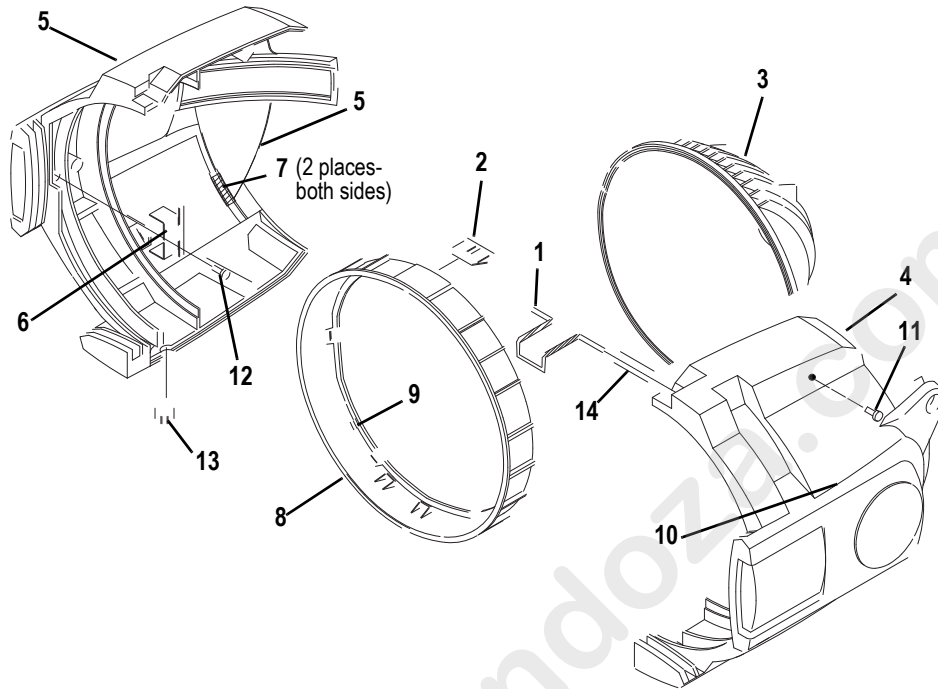
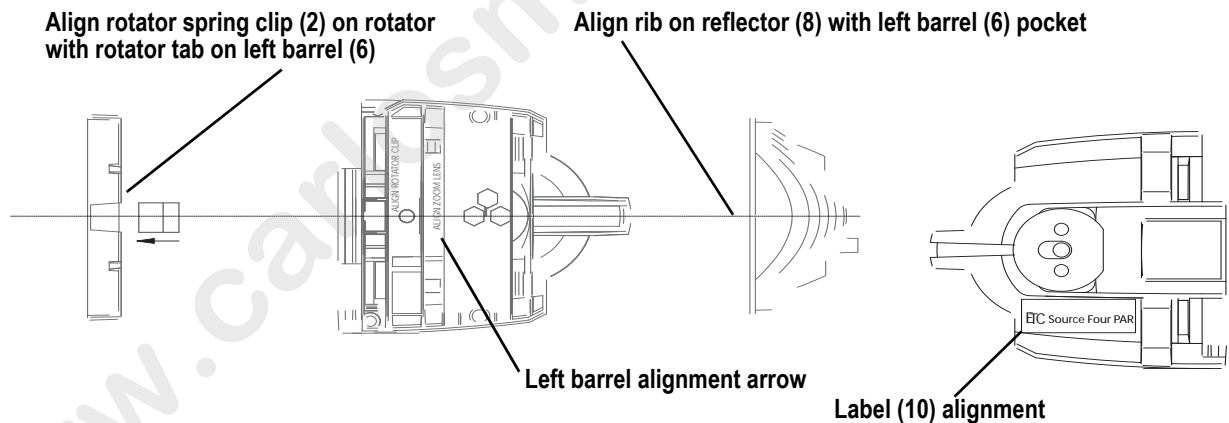

Figure 4
Figure 5
- Step 1: Install the reflector mount silicon pads (7) in the left barrel assembly (6). Install the pads in two places on both sides. See Figure 4.
- Step 2: Install the lens stop (9) and rotator spring clip (2) into the lens rotator (8). Install the lens rotator into the left barrel (5).
- Step 3: Install the rotator pressure clip (6) into the left barrel (5) and attach using screw (12).
- Step 4: Install the gel retainer clip (1) and the spring retainer (14) into the right barrel (4).
- Step 5: Install the reflector (3) into the left barrel (5). Align the rib on the reflector with the left barrel pocket as shown in Figure 5.
- Step 6: Attach the right barrel (4) to the left barrel (5) using three screws (11). Hand tighten only (25 in. lbs.).
- Step 8: Check for ease of movement of the gel clip retainer (1). The clip should latch into the left barrel in the down position and be free of binding.
- Step 9: Check for smooth rotation of the lens rotator (8).
- Step 10: Snap the focus knob plug (13) into the bottom of the fixture.
- Step 11: Attach label (10) onto the left barrel as shown in Figure 5.